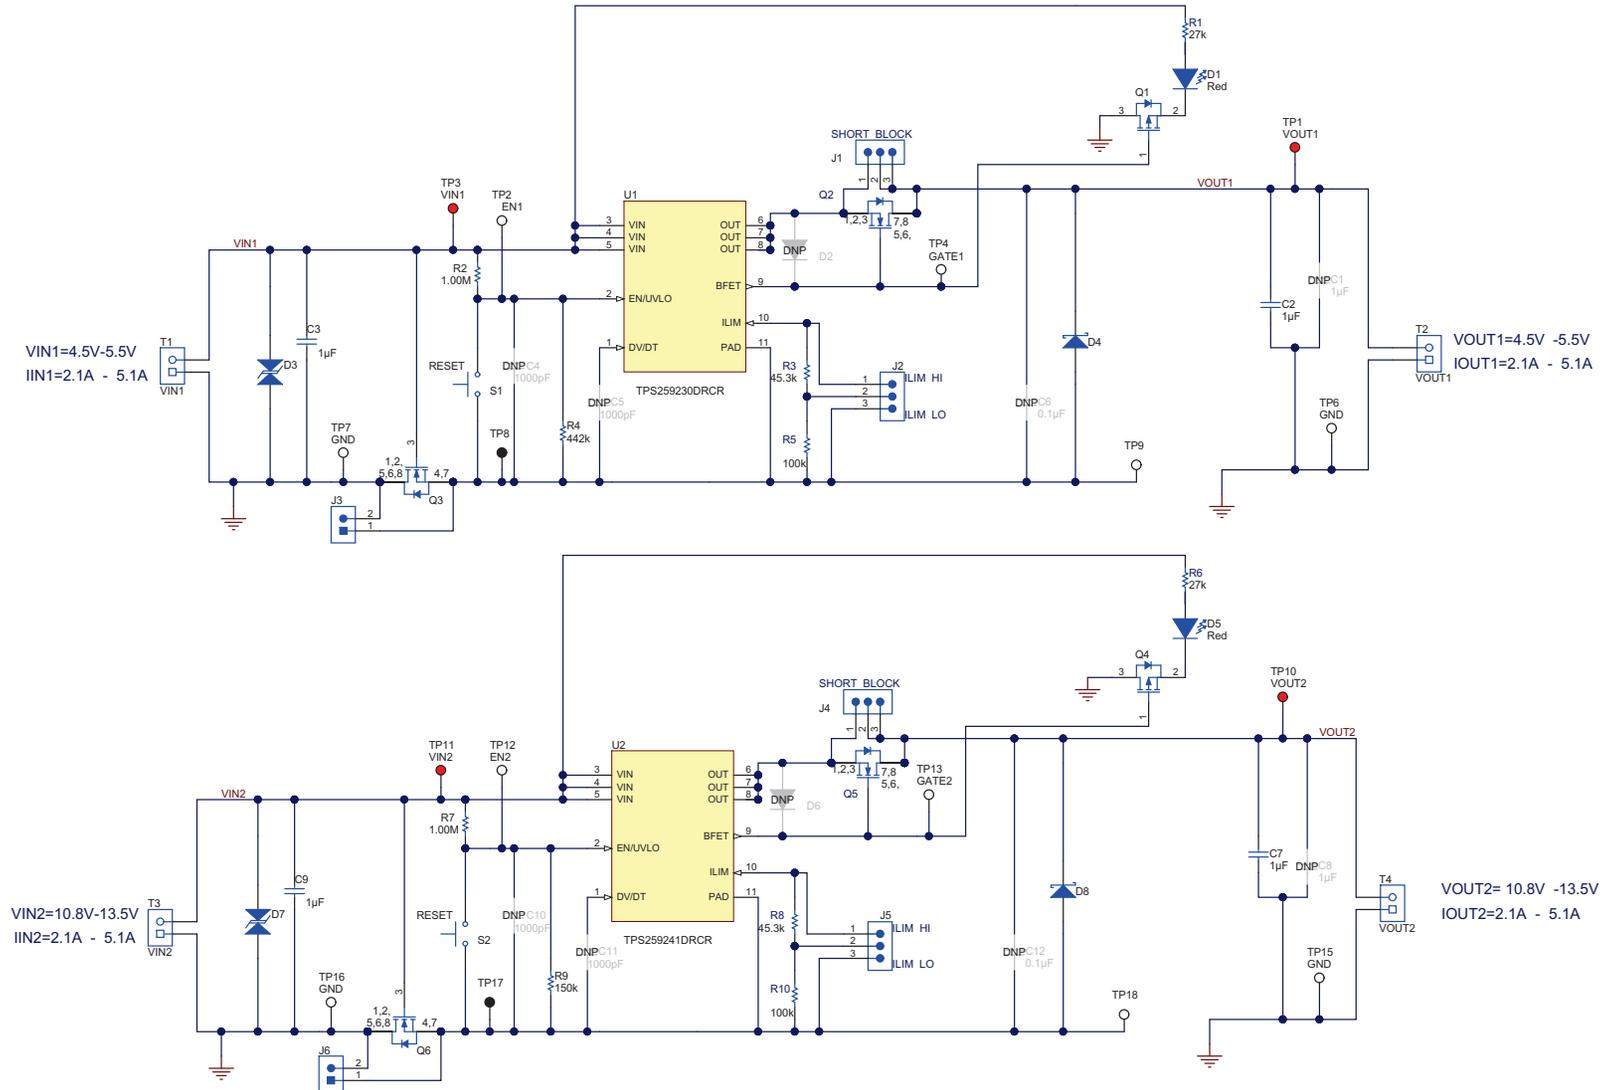
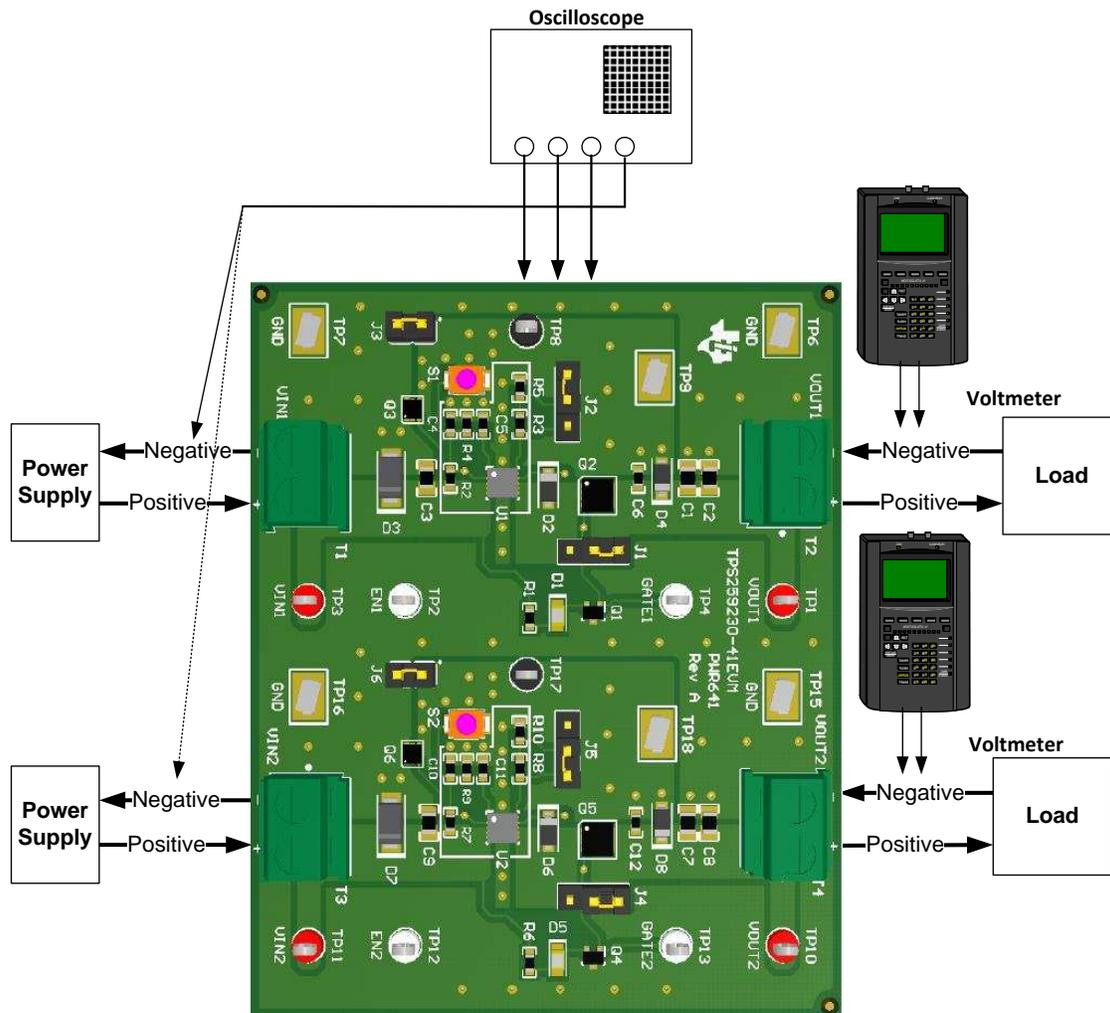

Figure 1. TPS259230-41EVM Schematic
Figure 2. EVM Setup With Test Equipment
The TPS259230-41EVM enables full evaluation of the TPS259230/41 devices. The EVM supports two versions (Latched and Auto- Retry) of the devices on two Channels (CH1 and CH2 respectively). Input power is applied at T1 (CH1) and, T3 (CH2) while T2 (CH1) and T4 (CH2) provide the output connection to the load, Refer to the schematic in figure1, and EVM test setup in figure 2.
Figure 1 illustrates the TPS259230-41EVM schematic.
Figure 2 shows a typical test setup for the TPS259230-41EVM. Connect T1/T3 to the power supply and T2/T4 to the load. The white boundary around the IC shows the minimum components and the PCB space required to implement the functionality.
- Turn off the power supply. Hook up CH1 and CH2 of the TPS259230-41EVM assembly as shown in Figure 1.